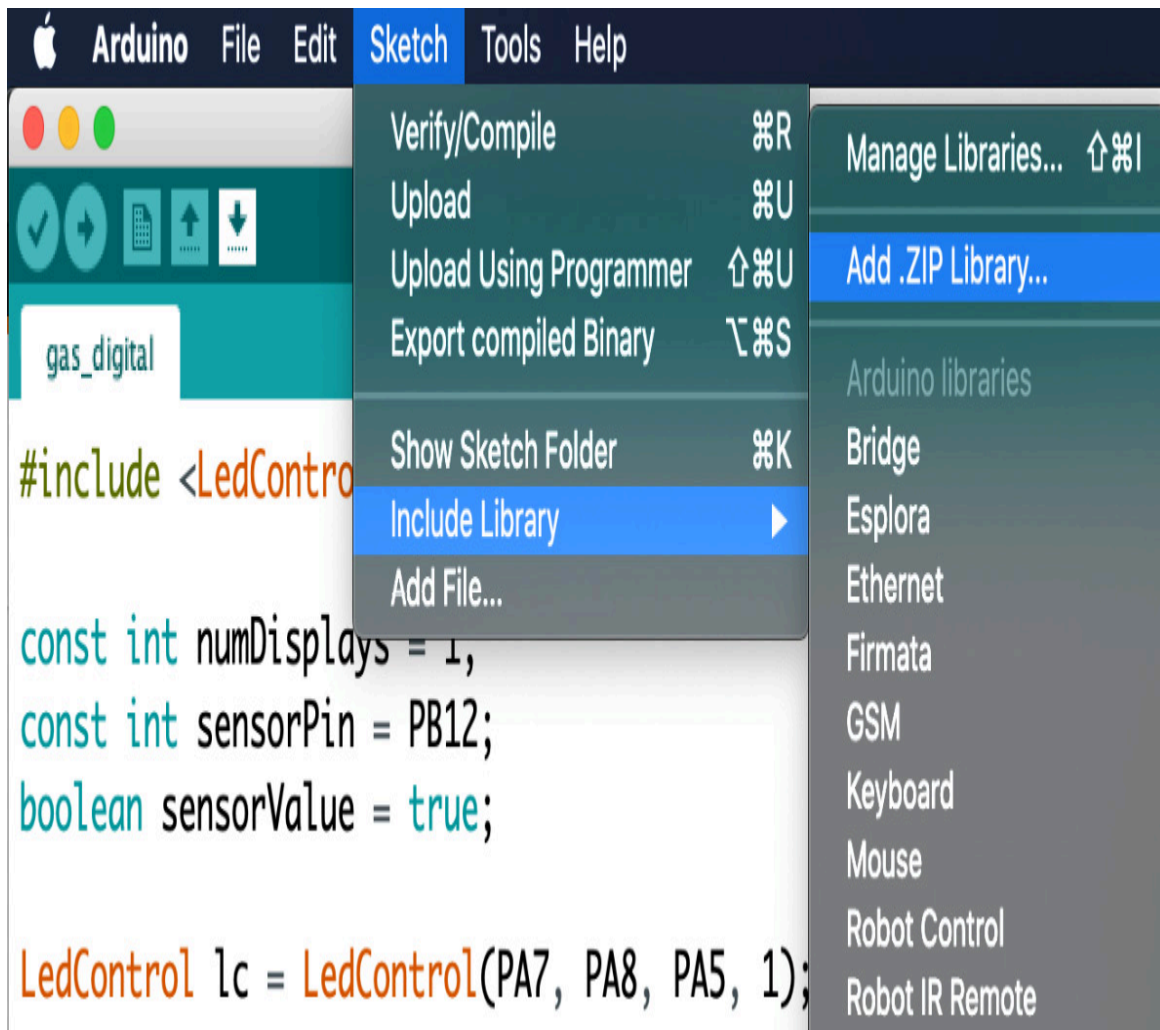

Figure 8.17 – Adding the LedControlMS library
2. To install, go to the **Sketch** menu | **Include Library** | **Add .ZIP Library...** (see *Figure 8.17*) and select the downloaded file, and it is ready to be used: